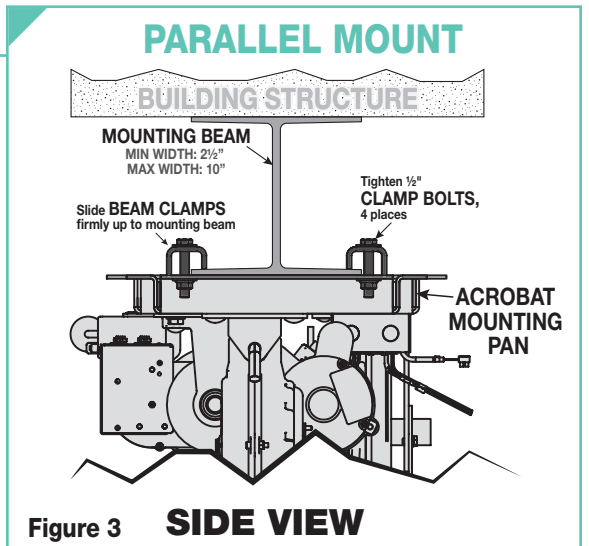

Figure 3 SIDE VIEW
1. Attach Beam Clamps to provided holes in Mounting Pans. The center of mounting beam must be centered on Mounting Pans (See Fig. 3 & 4).
- Slide Beam Clamps firmly up to the Mounting Beam (See Fig. 3 & 4).